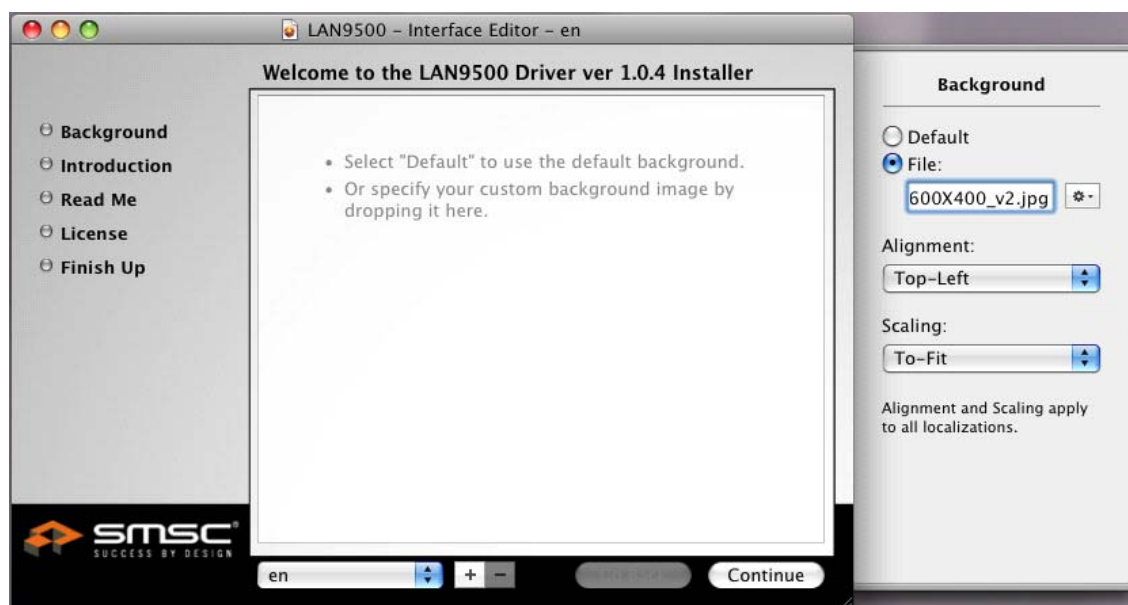
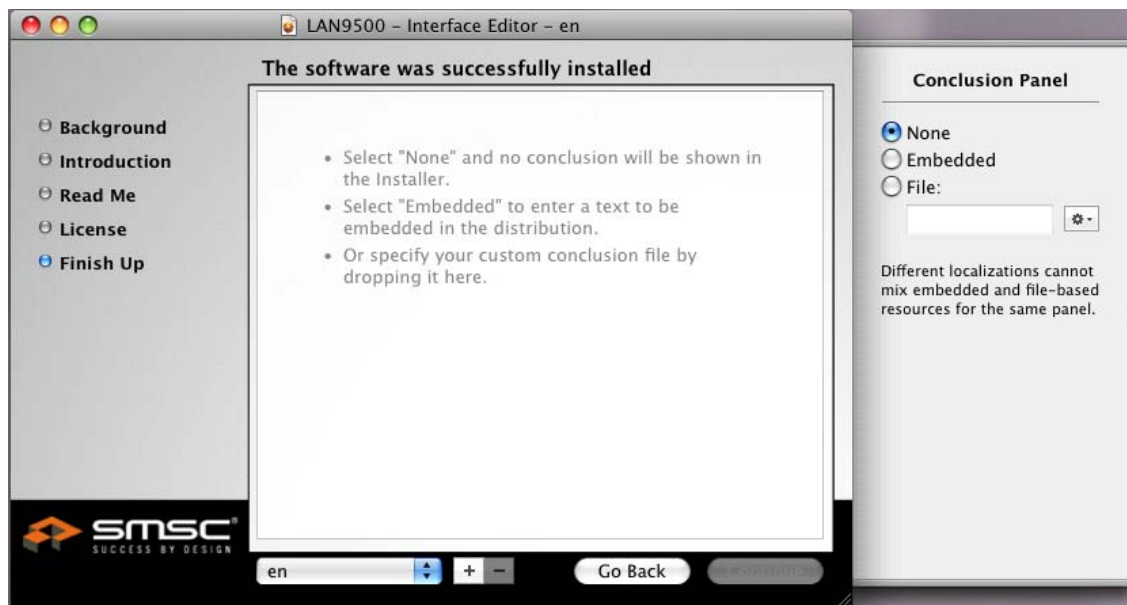

Figure 7.4 Selecting Background Image
Figure 7.8 Selecting Conclusion File
6. Follow the on-screen prompts to configure the background image, introduction (welcome message), read me, license, and conclusion, as shown in Figure 7.4 through Figure 7.8.